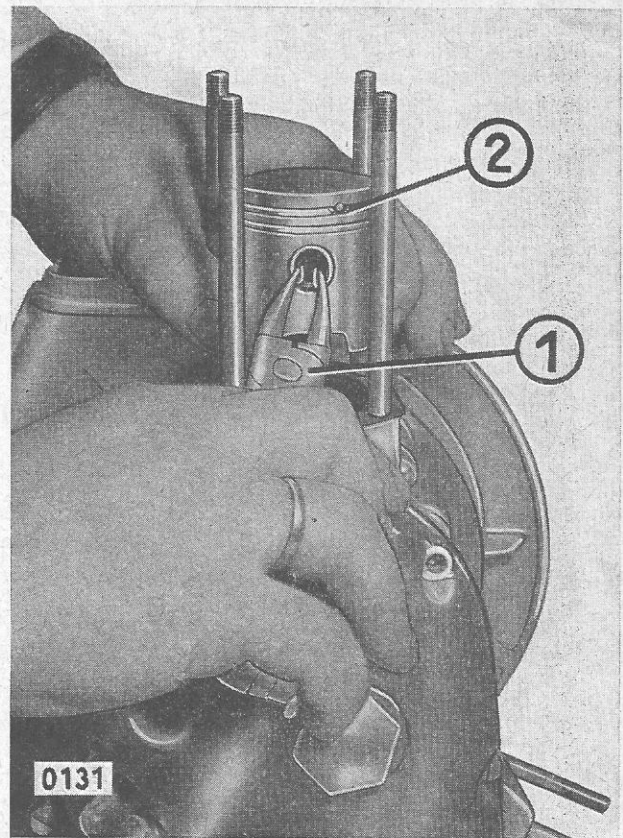

Fig. 4: Removing the circlip from the piston pin:
3. Take circlip off the piston (fig. 4) with circlip pliers (fig. 4/1) and remove gudgeon pin and piston by turning. (Do not vigorously knock out the gudgeon pin.)
decarbonized, even if it has become quite black. The piston rings must move perfectly freely in their respective grooves. Never remove piston rings without good reason! Rings gummed up with burnt oil, and their grooves, must be thoroughly cleaned. When removing such rings take care not to damage or stretch them unduly. Do not interchange them and put them back in correct position. If any ring is blackened excessively, it is defective and should be replaced. If a ring was removed, it should be rolled around the groove to make sure that it is quite free. On the other hand the axial play should not exceed 0.15 mm (0.0059 in.) (noise). Subsequently put the rings in the bore by means of piston, so the joints of the rings (fig. 4/2) become visible. Minimum gap 0.1 mm (0.00393 in.), max. gap 0.8 mm (0.03159 in.) without affecting the performance (the gap becomes larger due to wear of rings after a certain time of operation).